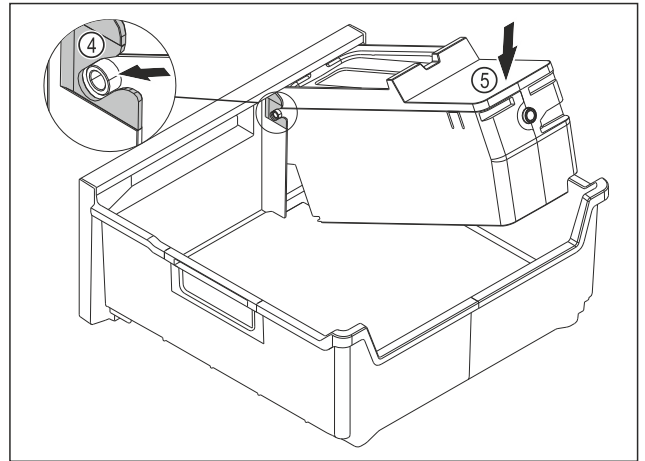

Fig. 192
- ▶ Installing the EasyTwist-Ice body: Push the axes for the EasyTwist-Ice body into the guides Fig. 192 (4).
- ▶ Press the EasyTwist-Ice body Fig. 192 (5) down at the back.